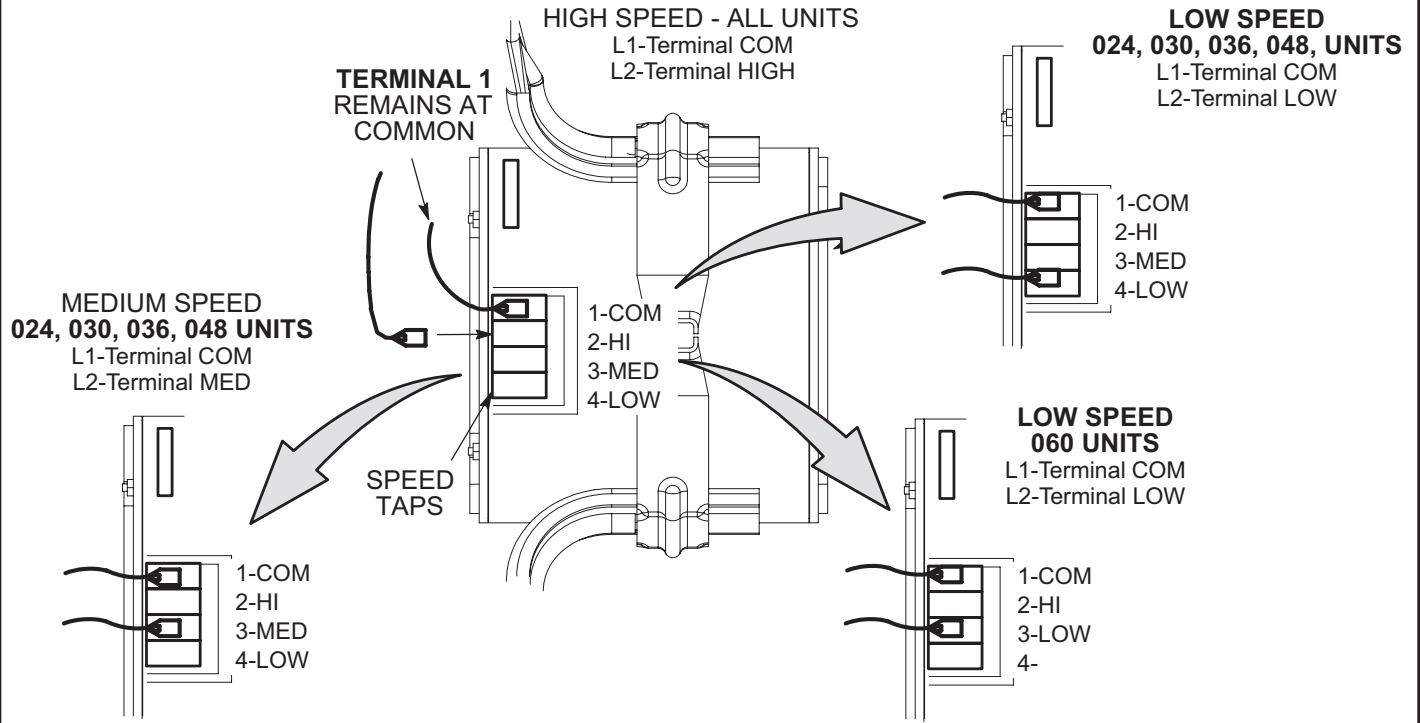

FIGURE 17
- 4 - Use direct drive blower tables, the measured static pressure and the factory-set blower speed to determine CFM. If CFM is lower or higher than the design specified CFM, move the leads as shown in FIGURE 17 for 208/230 volt units and FIGURE 18 for 460/575 volt units.